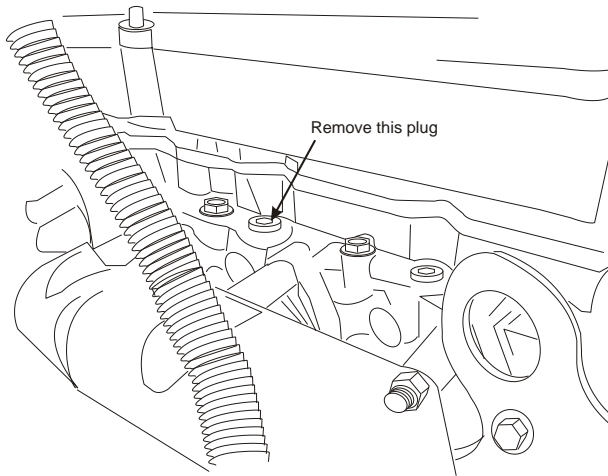

Figure 1.2
- ☐ Remove the plug from the passenger side of the cylinder head (Figure 1.2) and install the supplied 1/2 inch NPT nipple, NPT elbow and NPT to 3/4 inch hose barb in the cylinder head port. Face the elbow towards the passenger side of the truck. Use thread sealant on the NPT fittings.